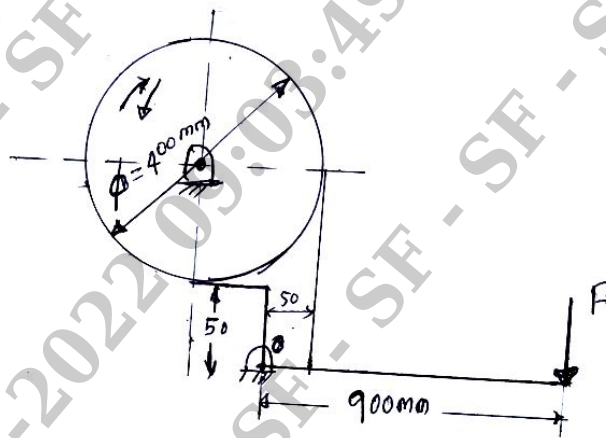

Fig. Q6 (b)
- b. The torque absorbed in the band brake shown in Fig. Q6 (b) is  $400 \times 10^3 \text{ N}\cdot\text{mm}$ . Design the band and lever, taking  $\mu = 0.27$  and diameter of drum as 400 mm. The allowable stress in band may be taken as  $70 \text{ N/mm}^2$ .